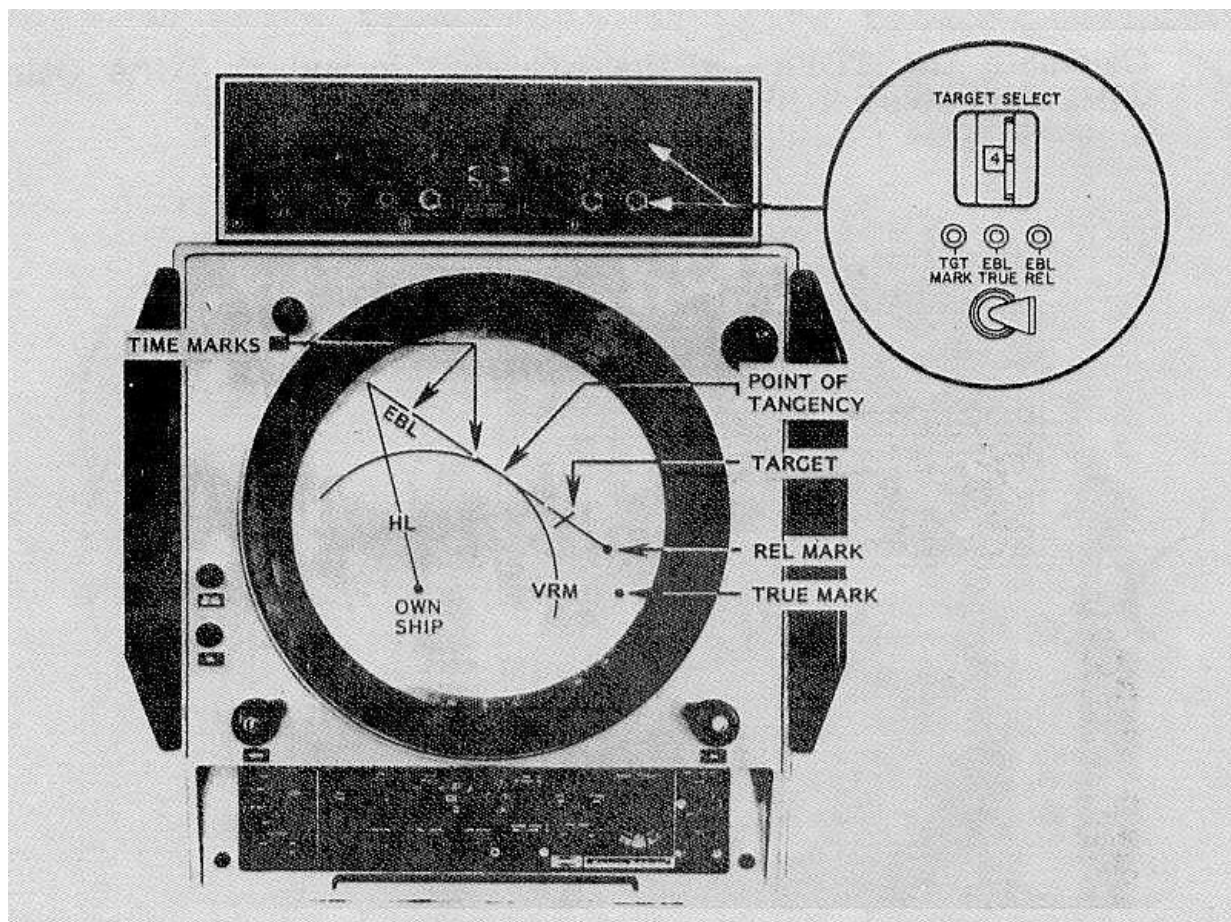

Figure 3-6 Measuring CPA and TCPA
3.4.2.5 Plotting Closest Point of Approach (CPA) and Time to Closest Point of Approach (TCPA) (Figure 3-6)